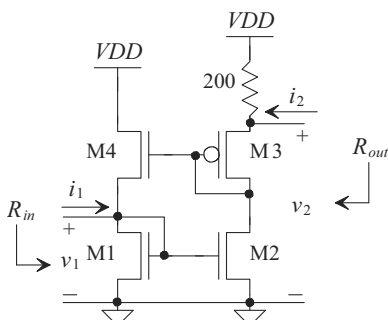

Figure 31.62 Feedback amplifier used in problem 31.24.
- 31.24** A feedback amplifier is shown in Fig. 31.62. Identify the feedback topology and determine the value of the voltage gain, $\frac{v_2}{v_1}$, R_{in} , and R_{out} .